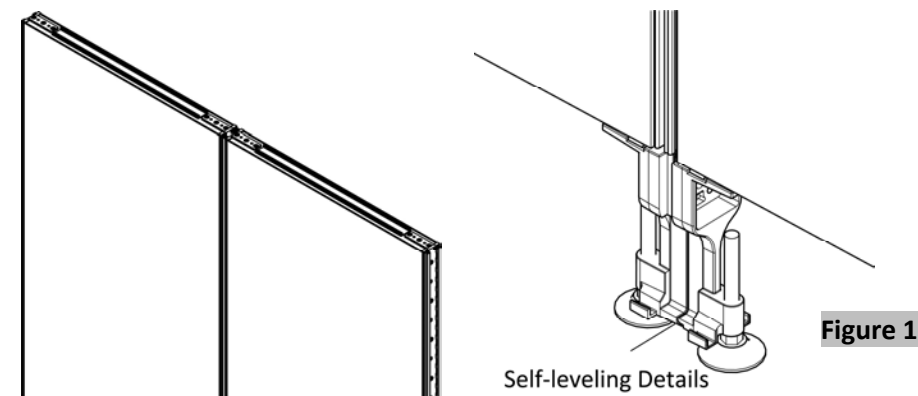

Figure 1
1. Engage the two panel legs with the self-leveling details and level them accordingly, (Figure 1).